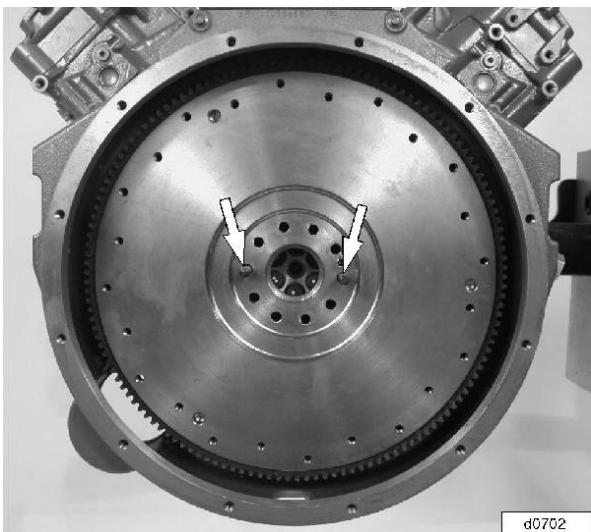

Figure 3 Flywheel Guides Installed
3. Remove two M10 x 77 flywheel mounting bolts at approximately the 3 o'clock and 9 o'clock positions. Install two guide pins (make locally) as shown in Figure 3. Remove remaining eight flywheel mounting bolts. The ten flywheel mounting bolts are not reusable. Retain four of the old mounting bolts for use during re-installation of the secondary flange gear.